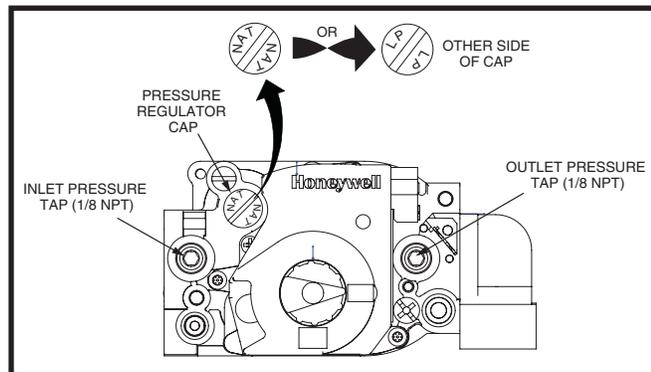

Figure 28. Honeywell Gas Valve
- A 1/8" NPT plugged tappings for test gauge connection are present on the gas valve. See Figure 28 \(page 17\) for locations.
- a. Remove the black cover and unscrew the converter located on top of the gas valve. See Figure 28 \(page 17\).